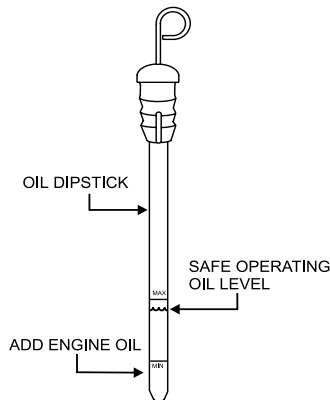

Figure 4. Engine Oil Dipstick
2. Determine if engine oil is low (Figure 4), add correct amount of engine oil to bring oil level to a normal safe level.